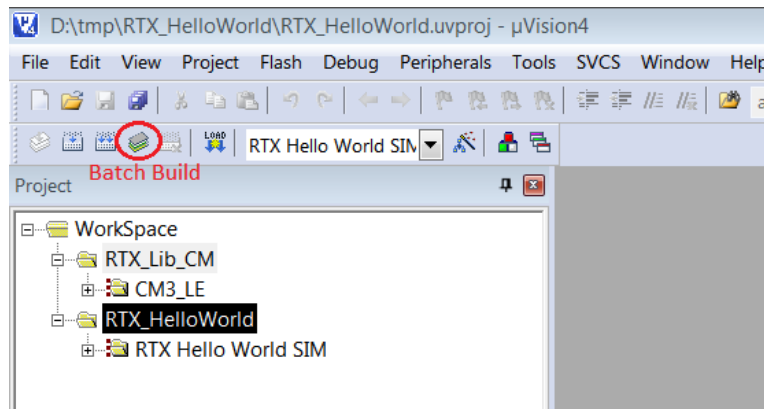
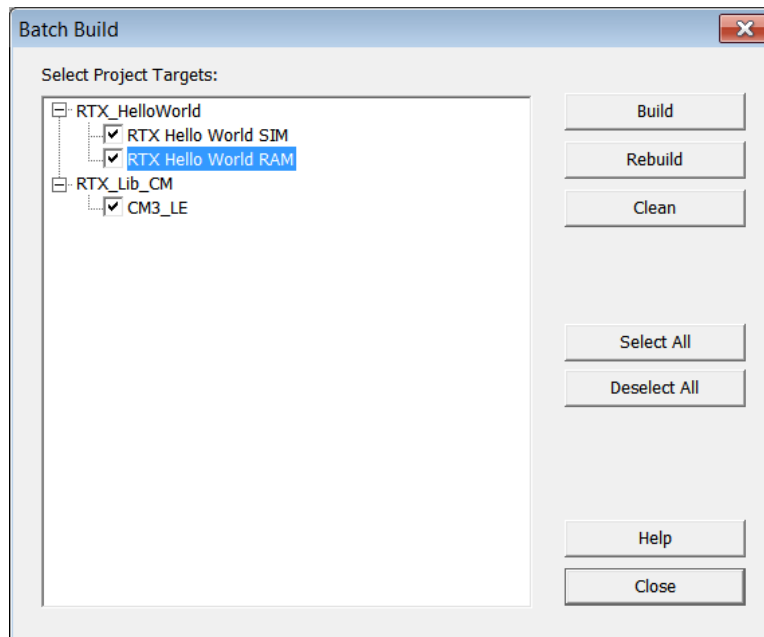

Figure 2.23: Keil IDE: Workspace with Two Projects
Figure 2.24: Keil IDE: Batch Build
4. Two projects appear under the Project Window (see Figure 2.23. Click the Batch Build button (see Figure 2.23 to bring up the Batch Build window. Select all the targets you want to build in a batch (see Figure 2.24). By setting up batch build, multiple targets can be built by a single click of the Build button inside the batch build dialogue box ².